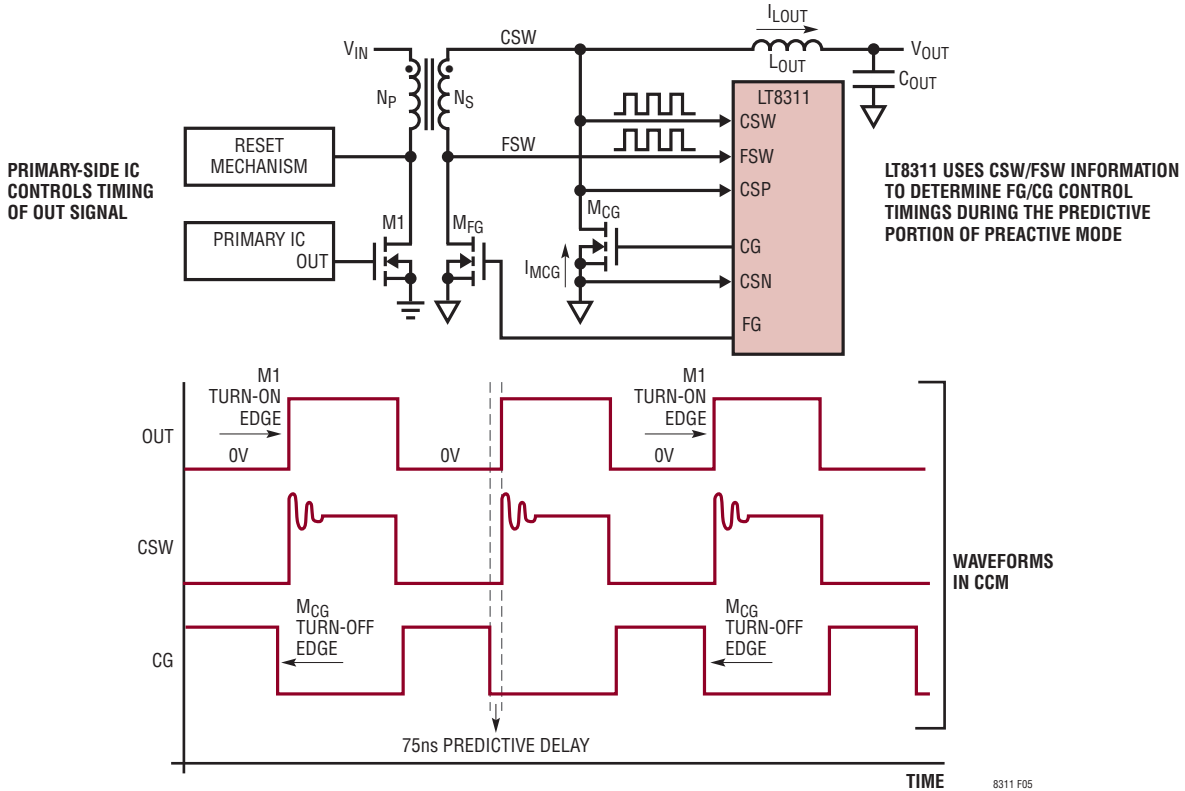

Figure 5. During the Predictive Portion of Preactive Mode, the LT8311 Phase Locks into the CSW Rising Edge and Turns Off  $M_{CG}$  75ns Prior to This Edge
"Preactive" is short for "predictive" + "reactive". In preactive mode, the LT8311 controls the secondary synchronous MOSFETs without any communication from the primary-side IC. In preactive mode, the catch MOSFET,  $M_{\text{CG}}$ , is turned on (CG rising edge in Figure 5) when the voltage on its drain, CSW, is detected to be below  $-150\text{mV}$ , and the forward MOSFET,  $M_{\text{FG}}$ , is detected to be off.  $M_{\text{CG}}$  is turned off when the first of two events after  $M_{\text{CG}}$ 's turn-on occurs:
- **Predictive  $M_{\text{CG}}$  Turn-Off** (Figure 5): In predictive turn-off, the LT8311 predicts when M1 will turn on in the next cycle, and turns off  $M_{\text{CG}}$  100ns prior to this event. Predictive turn-off of  $M_{\text{CG}}$  prevents cross conduction between  $M_{\text{CG}}$  and M1. M1's turn-on timings are predicted by phase locking to the rising edge of present and past CSW cycles. Predictive turn-off relies on the periodicity of M1's turn-on edge, an inherent aspect of fixed-frequency operation. Furthermore, the predictive turn-off is designed to be independent of the duty cycle of the system, which allows  $M_{\text{CG}}$  to be correctly turned off, even during load/line transients. Predictive turn-off will typically be the dominant turn-off mechanism for  $M_{\text{CG}}$  in CCM.